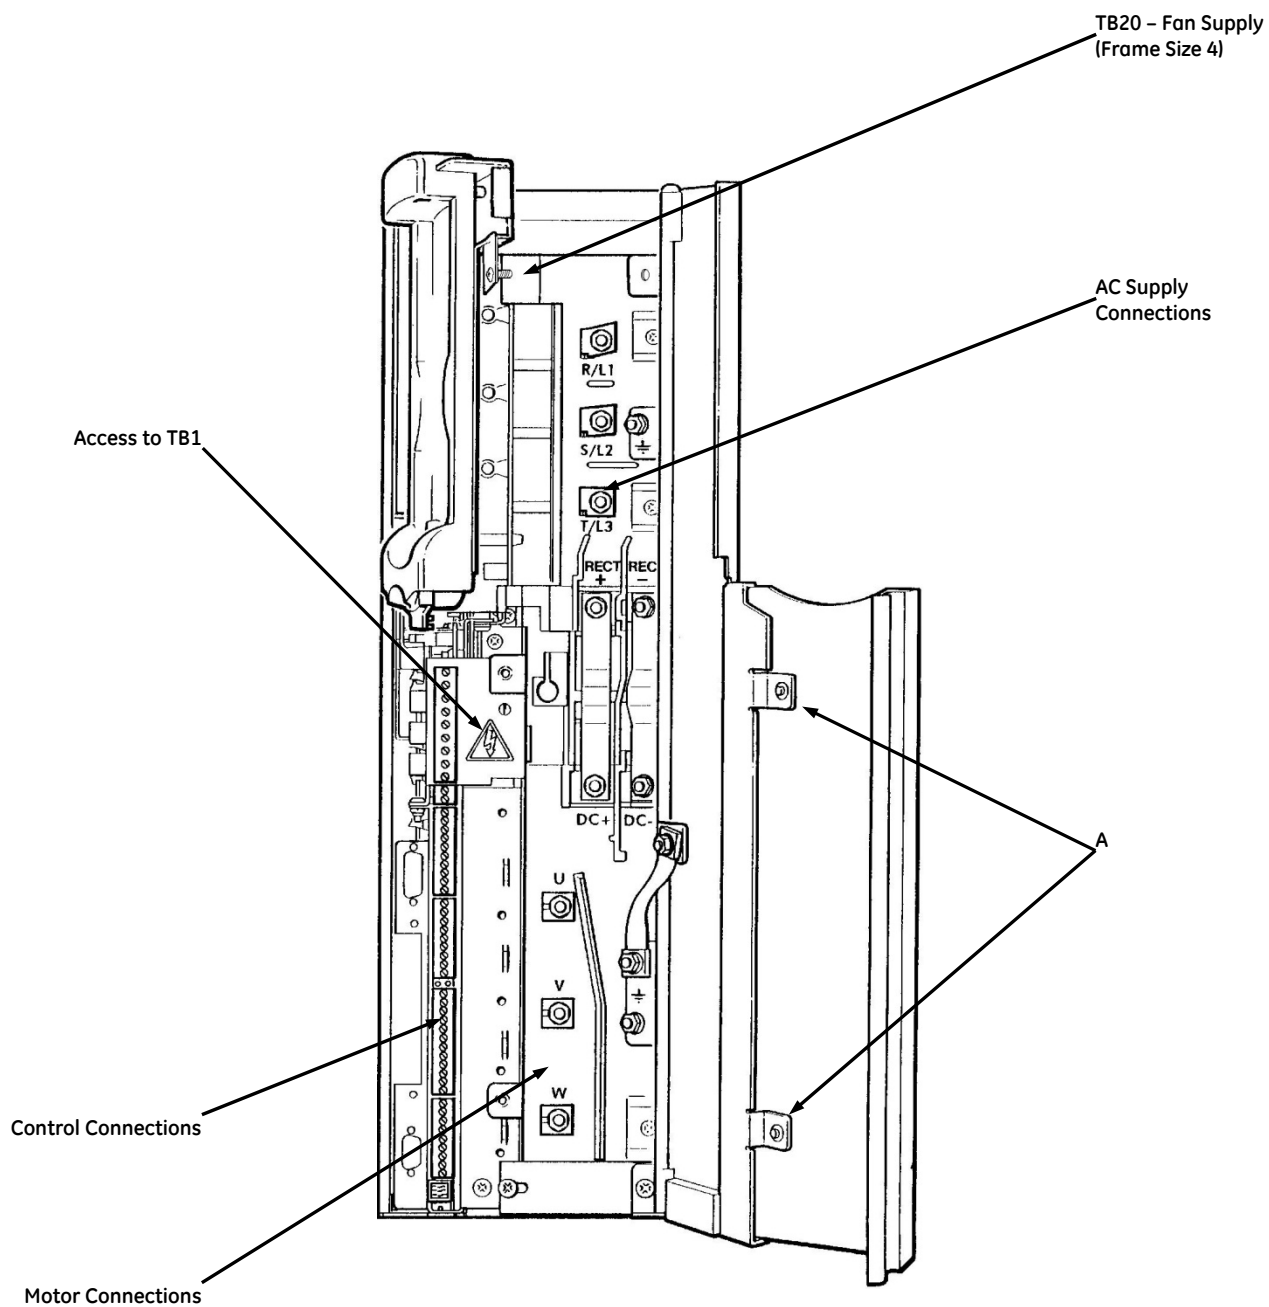

Figure 3-7. – Typical Front View with doors open
- a) For frame size 4 drives, remove the plastic screen from the fan supply connector TB20 (see Figure 3-7).
- a) Remove the plastic shroud from the fan supply connector TB20 (see Figure 3-7).
- e) Close the power door, secure with screws A (Figure 3-7), close the control door.
- e) Close the power door; secure with screws A (Figure 3-7). Close the control door.